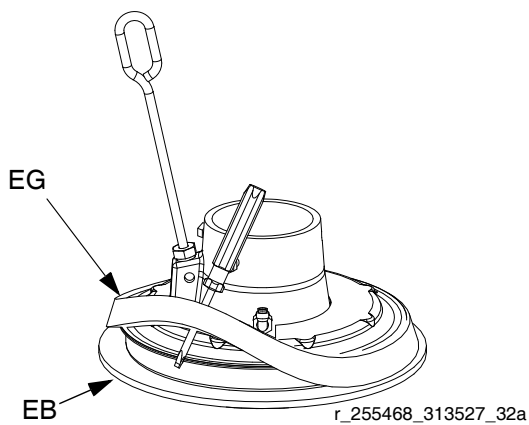

FIG. 17: Installing Spacer
2. *Working from the top*, use a screwdriver to position the spacer (EG) between the flange and wipers (EB). See FIG. 17.